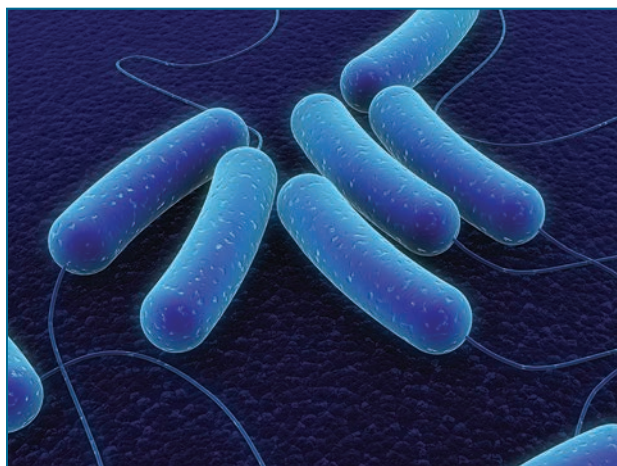

FIGURE 46. Bacteria such as *E. coli* can compromise human health and can indicate that other contaminants may also be present in groundwater.
- Bacteria such as *E. coli* 0157:H7 (Fig. 46), *Salmonella*, *Campylobacter*, *Pseudomonas*, *Helicobacter*, *Aeromonas*, *Vibrio cholerae*, and *Shigella*